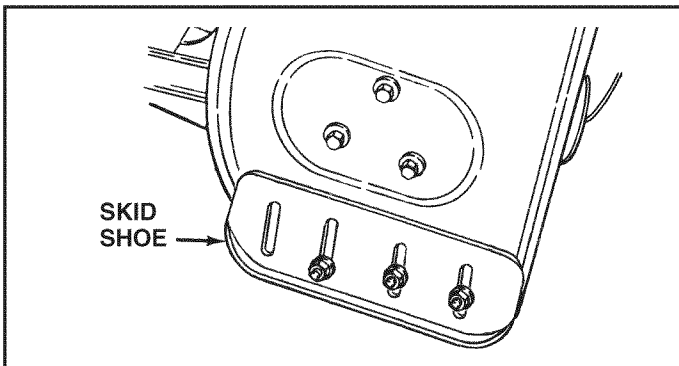

FIGURE 33
(Refer to figures 33 and 34 on page 20.)**
- To adjust the skid shoes, raise the snow thrower off the ground and place a block under each end of the scraper plate. Loosen the six hex nuts securing the skid shoes to the housing. Adjust the skid shoes up or down and retighten the nuts securely. Adjust both skid shoes to the same height to keep the housing and the scraper plate level. See figure 33.